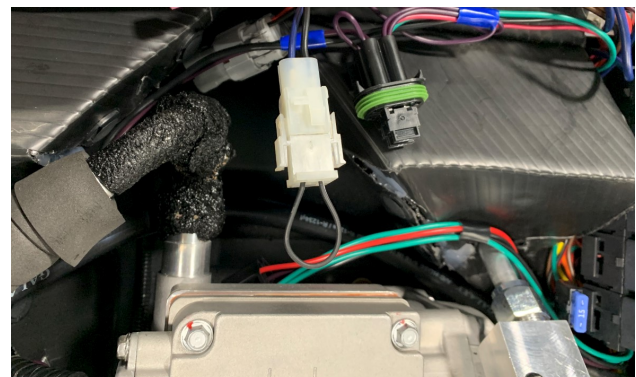

Fig. 3.11 (Connect Jumper)
- 3.11 Connect the small jumper with the white connector to the mating connector on the harness inside the A/C unit. Figure 3.11.